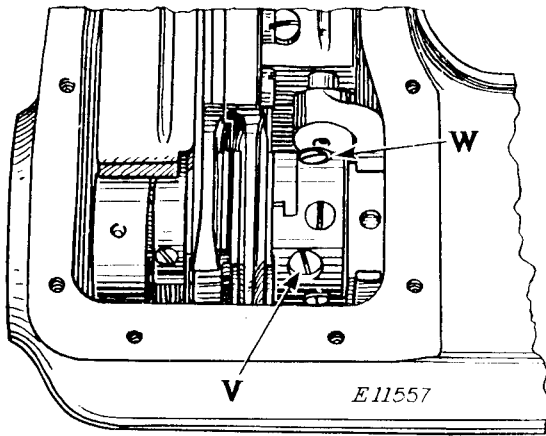

Fig. 14
the front end of the cylinder arm cover. First turn the balance wheel to bring the lock screw (V, Fig. 14) underneath the hole, and loosen this lock screw. Then turn the large screw (W) which projects beyond the body of the eccentric, to the left or outward for a longer stitch, or to the right for a shorter stitch. Tighten the lock screw (V) and replace the screw plug.